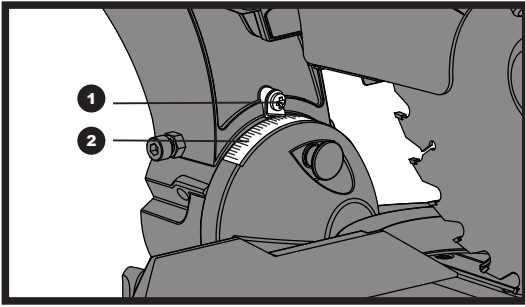

Fig 20
- 1) When the blade is exactly 90° (0°) to the table, loosen the bevel indicator screw (1) using a # 2 Phillips screwdriver.
- 2) Adjust bevel indicator (2) to the “0°” mark on the bevel scale and retighten the screw. (See fig. 20)